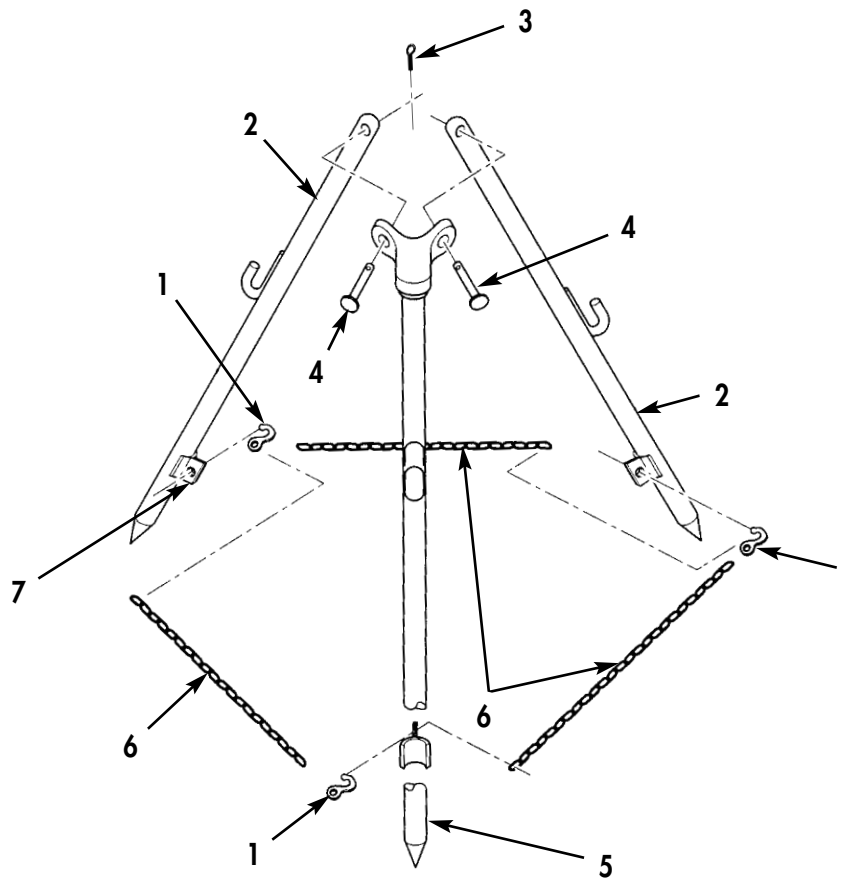

Figure 1. Disassembly of Nozzle Stand.
1. Open and remove three chain hooks (Figure 1, Item 1) and chains (Figure 1, Item 6) from eyes (Figure 1, Item 7) on two clevis legs (Figure 1, Item 2) and pivot leg (Figure 1, Item 5).
2. Remove two cotter pins (Figure 1, Item 3), straight pins (Figure 1, Item 4) and clevis legs (Figure 1, Item 2) from pivot leg (Figure 1, Item 5). Discard cotter pins (Figure 1, Item 3).